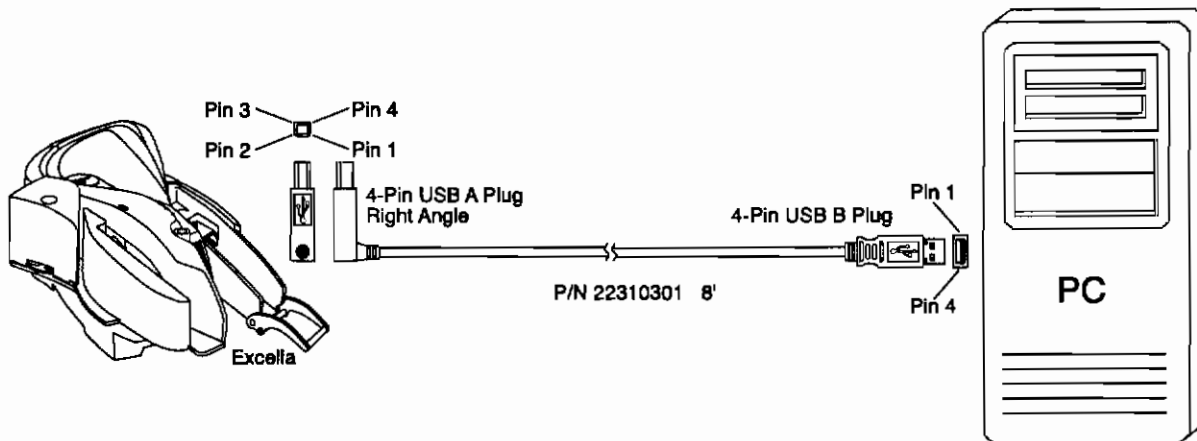

Figure 2-6. Cabling, USB, 4-pin, Right Angle, P/N 22310301
- USB – A-plug, 4-pin, right angle, P/N 22310301 shown in Figure 2-6 with pin list in Table 2-1